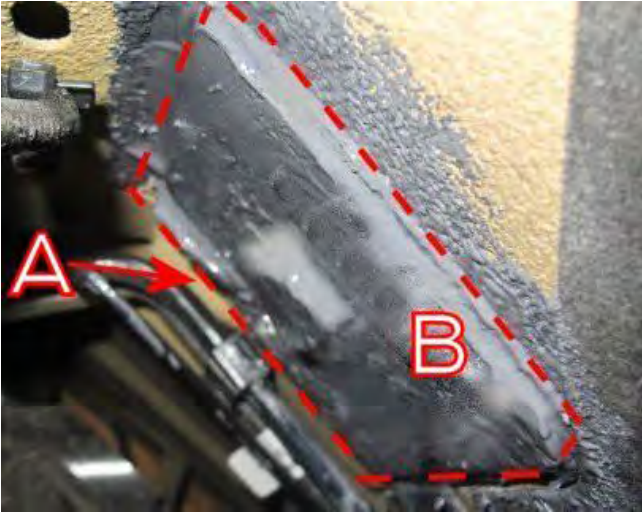

Figure 32
- Referring to Figure 32 - Manually apply the underseal to all four edges of the left hand plate (Point A) ensure the outer face of the plate is covered (Point B)